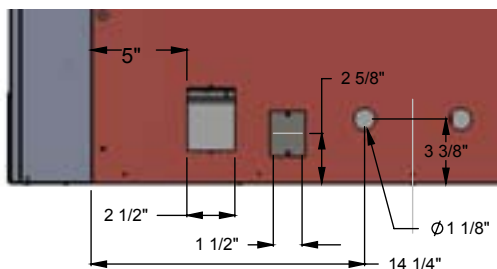

Figure 20. Gas line access.
- See **Figure 20** below for location of gas line access.